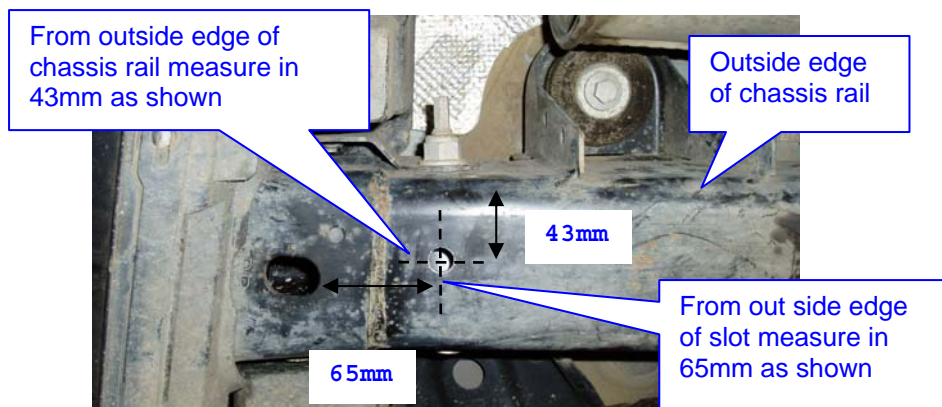

Fig 1
- Drivers side shown in fig1 mark out as shown then centre punch point